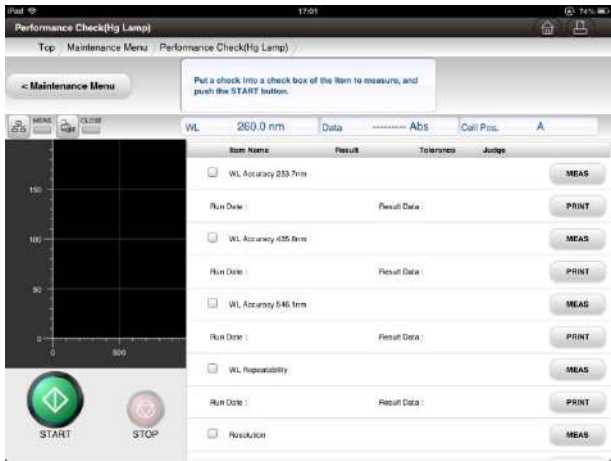

Fig. 6-27 Performance Check Screen
- (2) Make sure the sample compartment is empty and close the cover. To select the Performance Check, press the  (Performance Check (Hg lamp) button icon. Then, the Instrument Configuration screen (Fig. 6-27) is displayed.